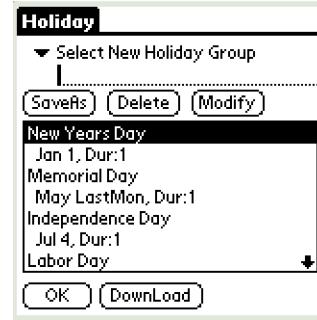

Fig. 43. Holiday screen.
1. From the main menu, tap Holidays. (See Fig. 43.)